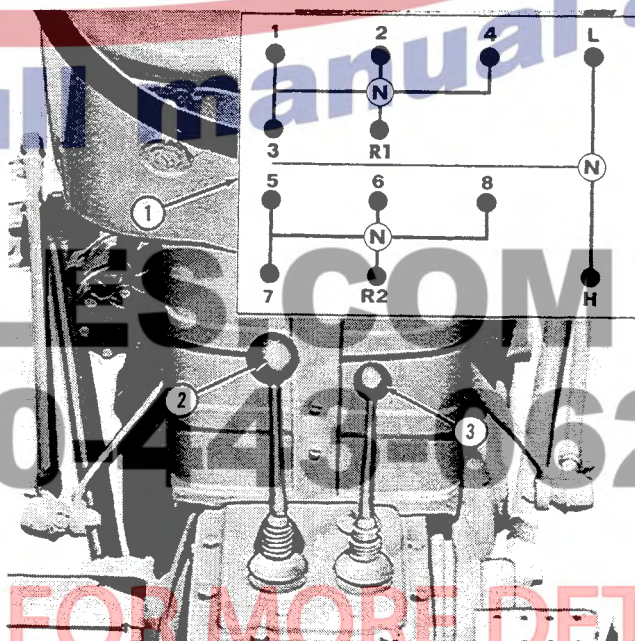

Figure 14
The gearshift levers for the 8 x 2 manual transmission are shown in Figure 14. A diagram of the shift pattern (1) is provided directly below the Proof-Meter on the tractor.